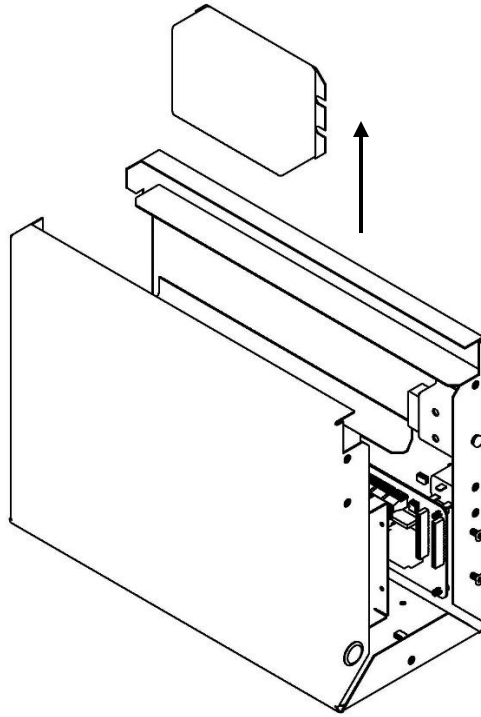

Figure 12
- 5.) Using a 11/32" nut driver, remove the (4) 11/32" nuts holding the fan/ballast assembly in place. Pull the fan and ballast out of the shell. See Figure 12.
- 7.) Use an 11/32" socket wrench to remove the (2) nuts holding the ballast into place. See Figure 12.
- 9.) Reinstall ballast and tighten the (2) nuts that hold the ballast in place with an 11/32" socket wrench. See Figure 12.
- 10.) Reinstall fan/ballast assembly into shell. Tighten (4) nuts holding fan and ballast to shell. See Figure 12.